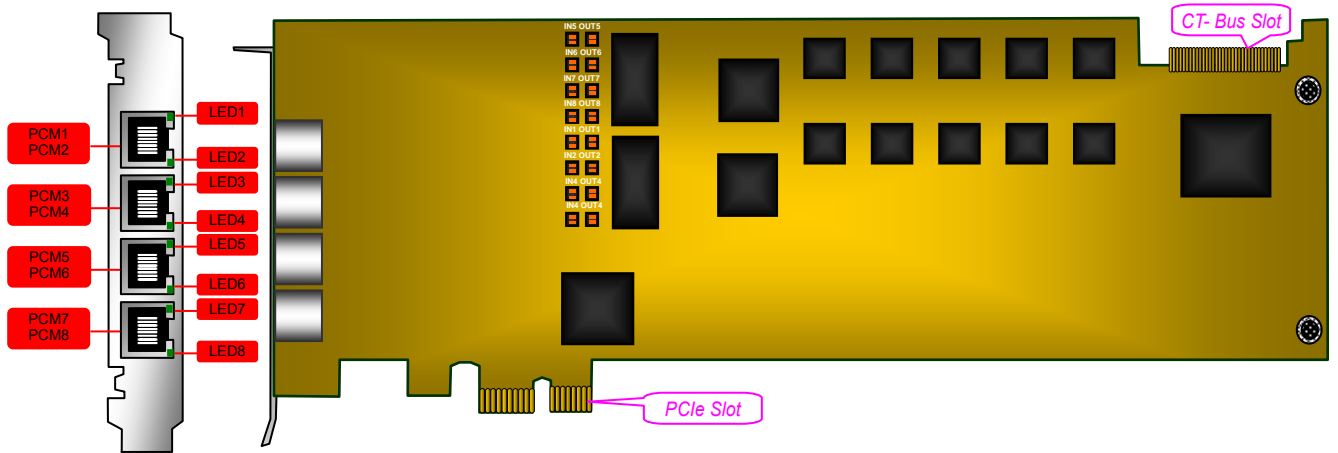
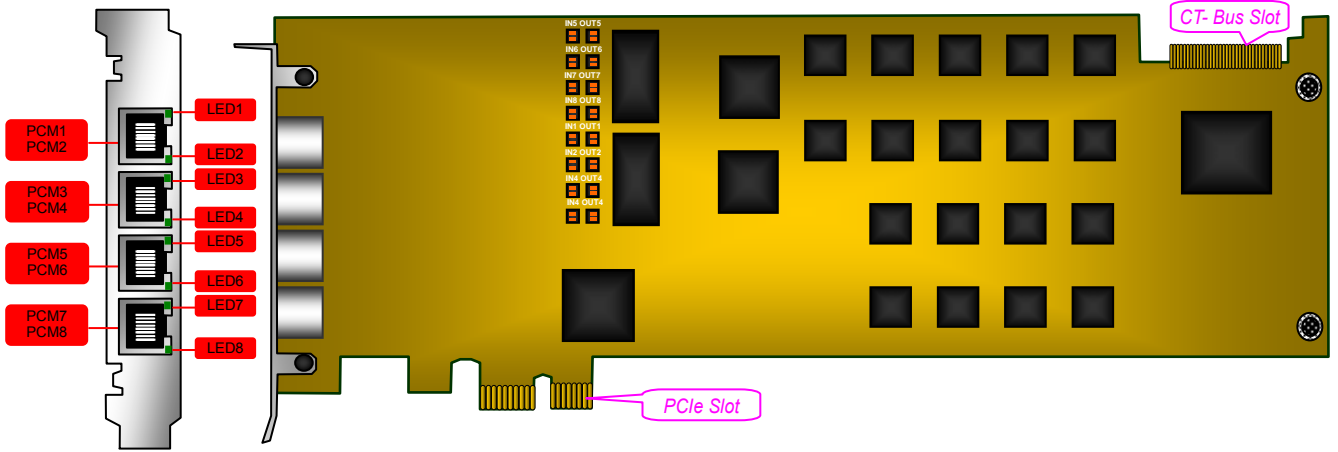

Figure 2-10 Left and Front Views
Figure 2-12 Left and Front Views
1. In Figure 2-10 and Figure 2-12, PCM1~PCM8 indicate 8 trunk interfaces while LED1~LED8 represent their synchronization indicators;